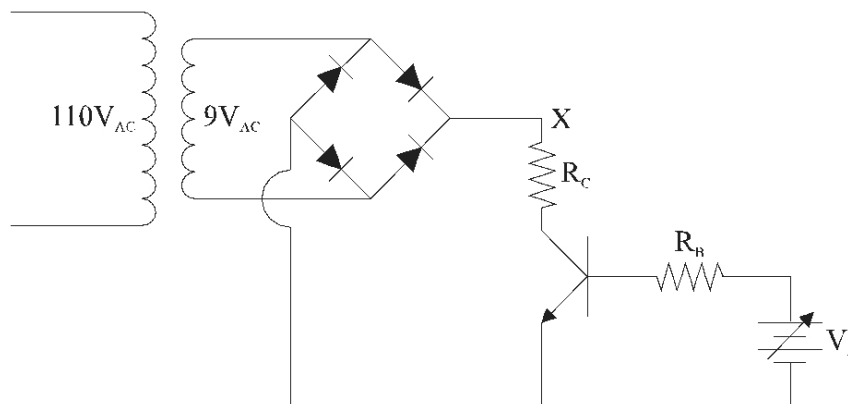

Figure 7-5-1. BJT common emitter configuration.
2. Mount the circuit in figure 7.5.1.
3. Set the time/div selector of the oscilloscope to X - Y position and connect its terminals to points A and B of the circuit shown in Figure 7.5.1 and observe.